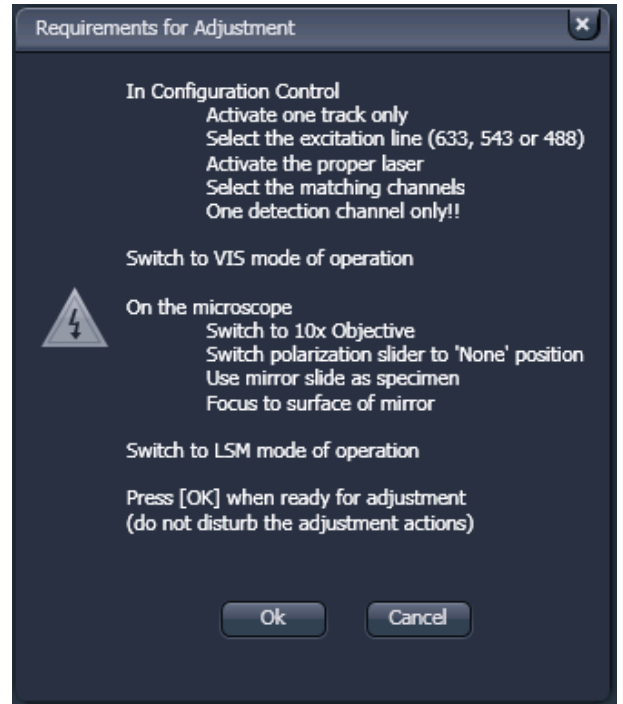

Fig. 559 Requirements for Adjustment window
- Meet the requirements listed in the **Requirements for Adjustment** window (Fig. 559). Press **Cancel** to abort the automatic pinhole adjustment. Press the **OK** button to proceed.